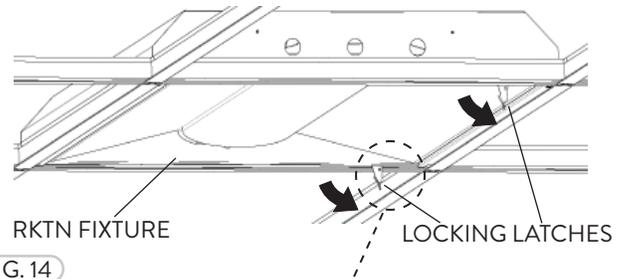

FIG. 14
- 7 Rotate both Locking Latches upwards into the slots of the End Brackets (Fig. 14 & 15).